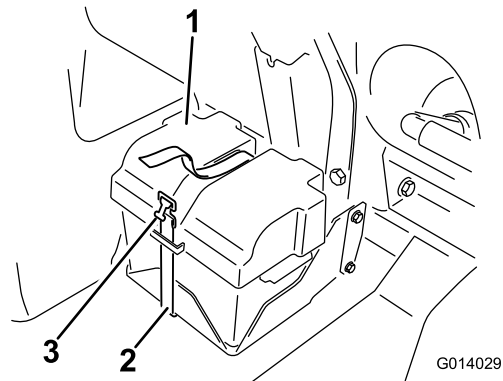

Figure 81
2. Remove the battery cover and disconnect the negative (black) ground cable from the battery post (Figure 81).
4. Install the battery cover and secure it with the strap that you removed previously (Figure 81).